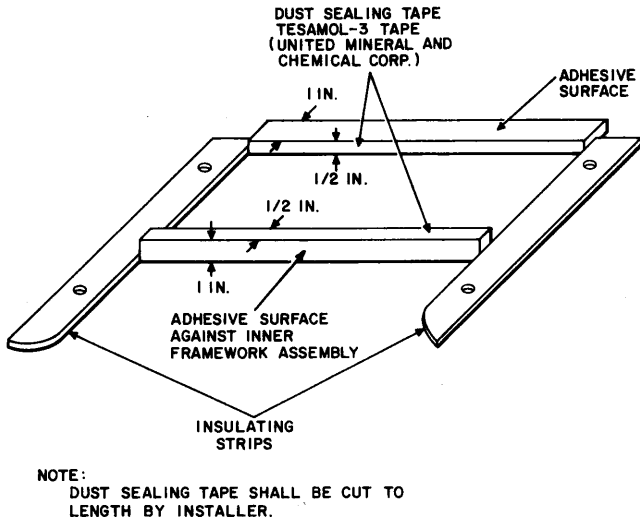

Fig. 15—Placement of Insulating and Dust Sealing Strips
3.04 When the PBX is to be installed on a metal surface, such as on inserts used for terrazzo floors, insulate the framework with insulating strips (Fig. 15).